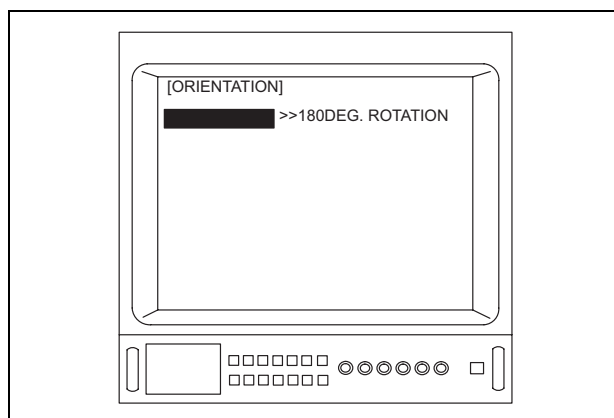

Figure 5.134
6. Depress the menu switch “◀” or the “Enter” key on the keyboard to adjust “ORIENTATION” (see Figure 5.134).
Depending upon the OTV-S7V's settings, the menu shown in Figure 5.134 may appear different from that displayed on the video monitor.